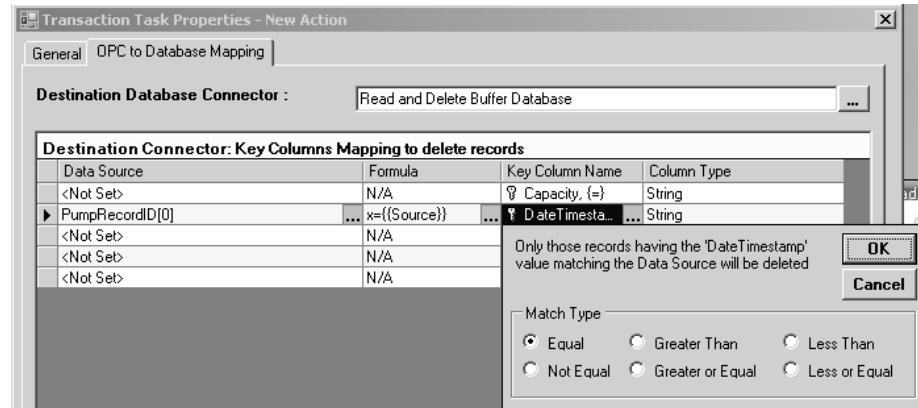

Figure L5.8 - Data Mapping for DateTimeStamp
- By clicking on the ellipsis button **...** in the **Key Column Name** column, you will be able to choose which record you want to remove, as shown in Figure L5.8.